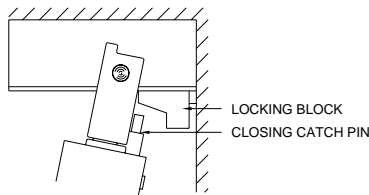

Fig. 1-2
2. Pull the bottom of the closing channel toward the storage area of the closure until the closing catch pin disengages from the locking block. See Fig. 1-2.